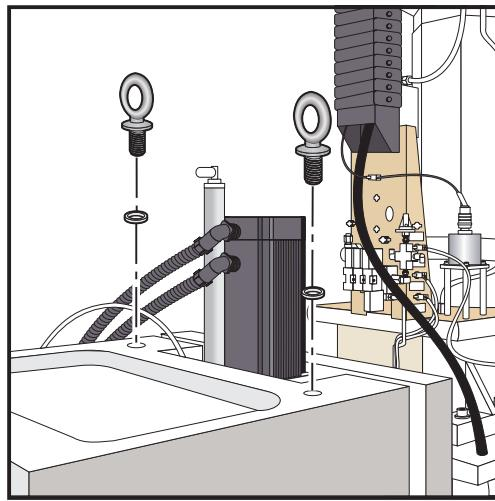

Fig. 1.9-8 VF-5 eyebolt locations on top of column.
2. Install (2) 5/8 x 1 x 1-1/16" eyebolts and (2) 3/4" hard washers to the column as shown in Figure 1.9-8. Tighten securely.